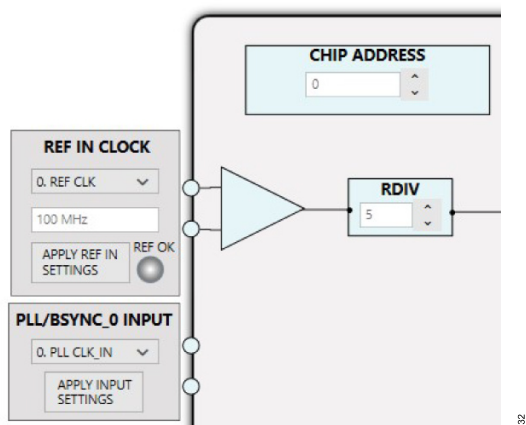

Figure 32. Chip Address Window is on the Top Left of the User Interface
3. In the top left of the user interface, the CHIP ADDRESS box indicates the address to identify the board to be initialized (Figure 32).